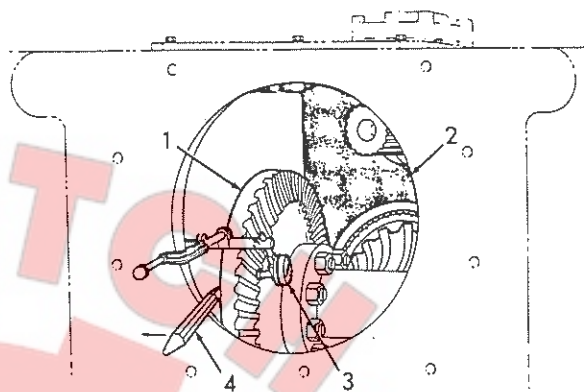

Fig. 15 Checking for Bevel Gear End-Play (T-70854)
1. Before installing transmission, bevel gear shaft bearings must be checked for end-play. As it is impractical to check bearing preload as described in "BEVEL GEAR AND SHAFT" (steering clutches removed), refer to Fig. 15 and check bearing end-play by positioning dial indicator through power take-off access hole (if tractor has rear mounted equipment, remove bevel gear compartment cover and work through